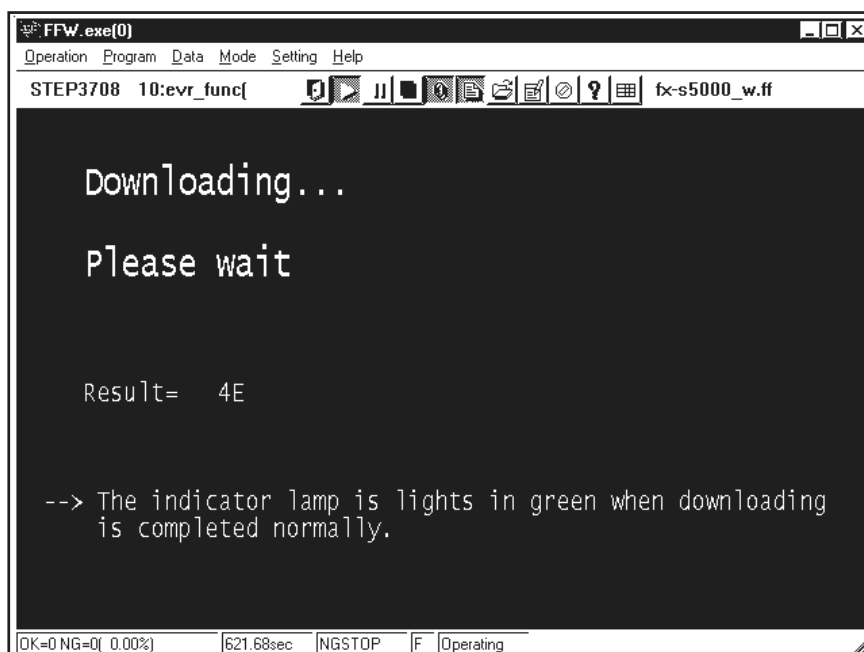

Fig.35
---> The **[Downloading Screen (Fig.35)]** appears.